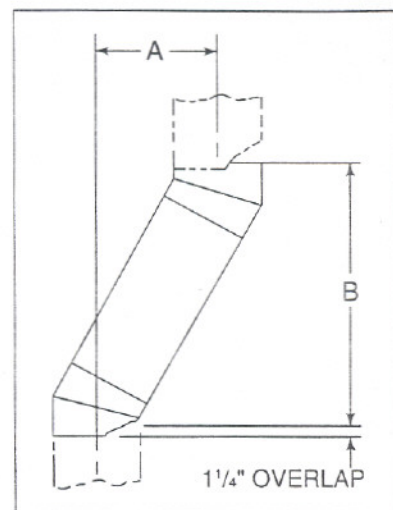

Figure 9
To clear any overhead obstructions, the chimney may be offset using a 30° Offset/Return, Catalog Number SL430. Figure 9 and Table 1 enable selection of the appropriate chimney components when using Offsets and Returns. For Offset/Return installations, Figure 8B illustrates the minimum height from the bottom of the fireplace to the top of the first Chimney Section, SL412. An arrangement, using either an SL412, SL418, SL436 or SL448 as the first Chimney Section, is required when Offsets/Returns are used anywhere in the system.
1. Determine amount of offset required to extend the chimney through a wall or around an obstacle. See Figure 9, dimension "A".